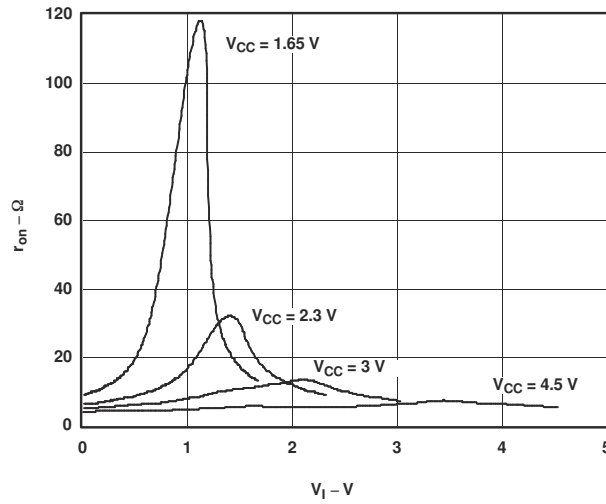

Figure 6-1. Typical R_{on} as a Function of Input Voltage (V_i) for $V_i = 0$ To V_{CC}
| r _{on} | ON-state switch resistance ⁽²⁾ | See Figure 7-1 and Figure 6-1 | V _I = 0 V, I _O = 4 mA | 1.65 V | 11 | 20 | Ω | |
| r _{range} | ON-state switch resistance over signal range ^{(2) (3)} | 0 ≤ V _{Bn} ≤ V _{CC} (see Figure 7-1 and Figure 6-1) | I _A = -4 mA | 1.65 V | | 140 | Ω | |